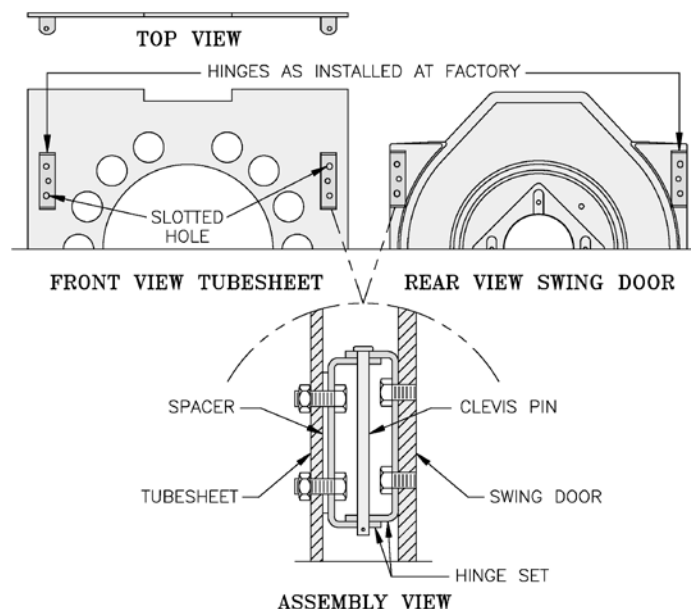

Figure 3: Hinge Installation & Assembly, microTEK3 Boiler
- F. Attach 2 hinge brackets & spacers to Tubesheet and 2 hinge brackets to Door on right side of boiler. 3 Holes in each Hinge Bracket must line up with 3 matching holes in Spacer, Tubesheet or Door. See Figure 3. Tighten hex nuts, bolts and screws by hand only.
- G. Replace door assembly. Hinge brackets attached to door must rest on top of hinge brackets attached to tubesheet. See Figure 3. Slide hinge pins through hinges from top and install cotter pins. Close door and install 5/16" - 18 x 3" long hex head cap screws through flatwashers and left side of door and into tapped holes in tubesheet. Tighten all hex nuts, bolts and screws. When door is installed properly, it is parallel to Tubesheet when viewed from top and sides.